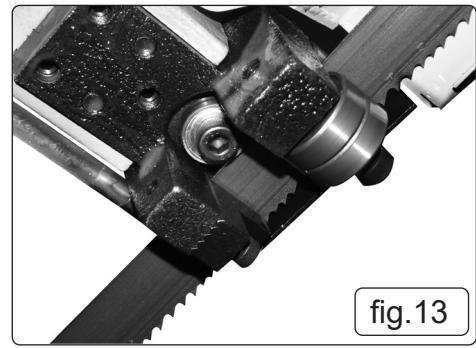

fig.13
6.7. CHECKING BLADE GUIDES FIG13